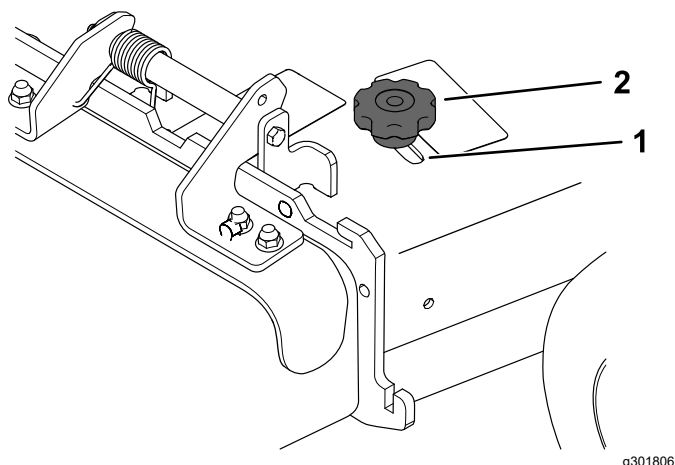

Figure 24
3. To adjust the baffle, loosen the knob (Figure 24).